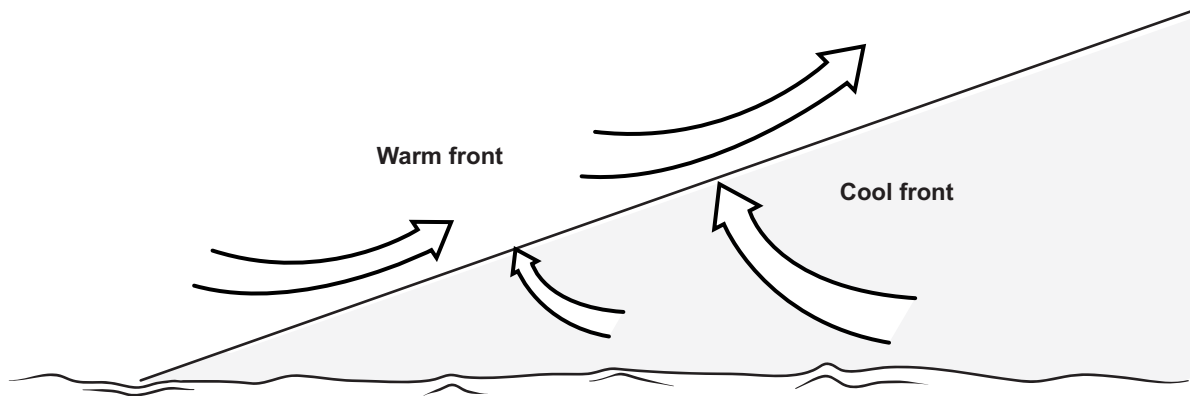

Figure 1-5. Frontal Lifting.
- **Frontal lifting.** Frontal lifting occurs when two air masses with different moisture levels and temperatures collide. Since the air masses do not mix, the warmer air is forced upward (see Figure 1-5). Once there, it is cooled and then reaches its saturation point.